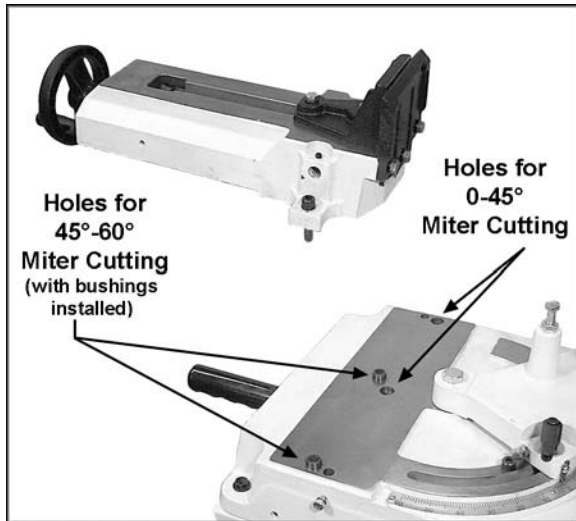

Figure 13
There are two sets of holes in the base for mounting the vise assembly. For miter cuts from 0° up to 45°, mount the vise assembly to the rear set of holes. For miter cuts over 45° up to 60°, use the vise in the front set of holes. See Figure 13.
3. Remove the two socket head cap screws and lock washers which secure the vise, and lift off the vise. See Figure 13.